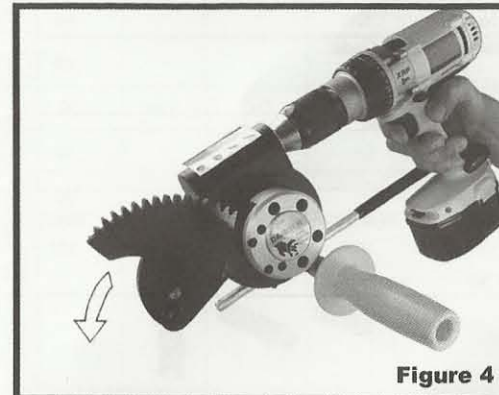

Figure 4
STEP 4: Activate the drill trigger switch to open the moving blade(Figure 4).